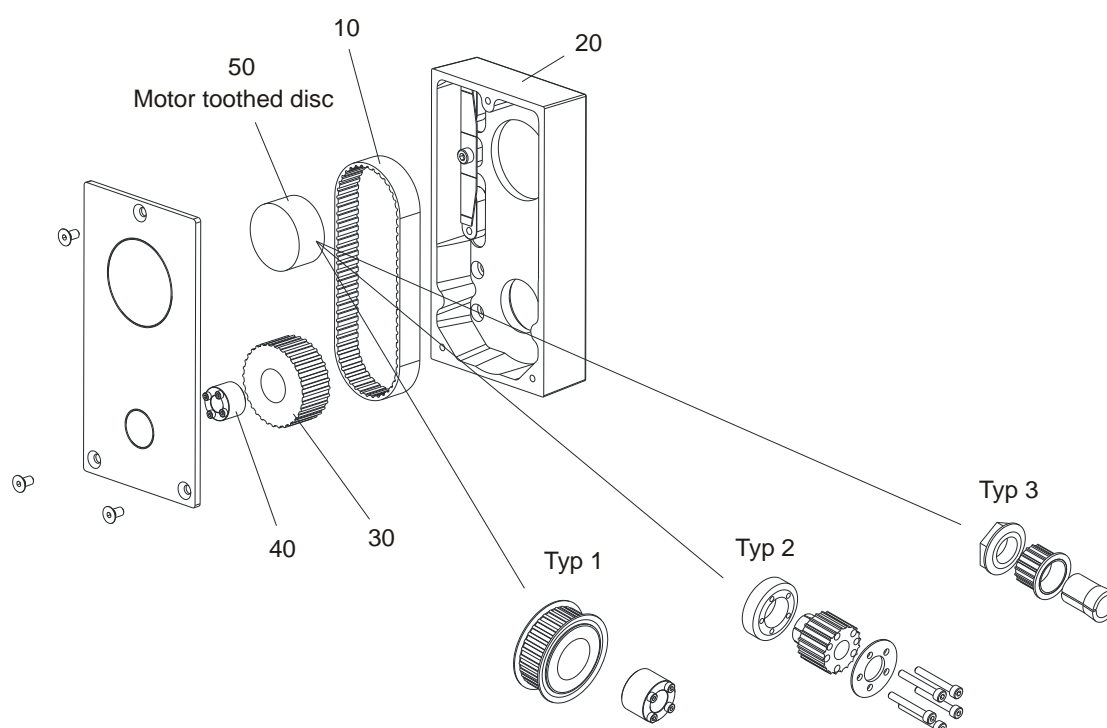

Figure 24: easyLINE, gearbox exploded view
The belt tension of the gear toothed belt should be 150 N. (see drawing item 10 in *Figure 24* page 29)